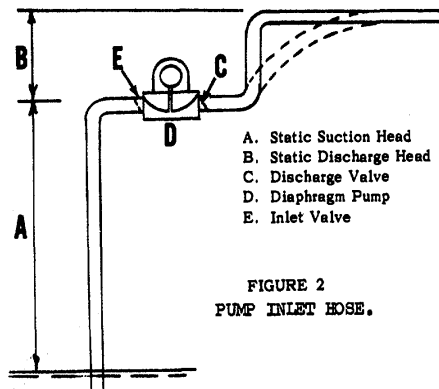

FIGURE 2
7. Selection and preparation of pump site - The pump inlet should not be located higher than 25 feet above the source of liquid to be pumped. (Fig. 2) The pump is capable of pumping against a total dynamic head of 35' which is a combination of (A) and (B) in Fig. 2, but the Static Suction Head is not to exceed 25' (measured vertically) above the inlet valve from water level. This would leave a 10' Static Discharge Head (measured vertically). These figures are based on using a suction line of same nominal inside diameter as pump inlet (4"), and one elbow and are calculated at sea level atmospheric conditions. For maximum pumping efficiency it is recommended that the discharge line be elevated above the height of the discharge valve. This retains a back pressure against the discharge valve on the suction stroke of the diaphragm. Pump should be setting level and as close to the liquid to be pumped as possible. Adequate working space should be provided around the pump for inspection and servicing.
Both the suction and check valves should close with a distinct slap. A change to a very loud snap indicates excessively high suction and/or discharge. Make sure that the installation does not exceed the maximums. (Reference, Chapter II, Par. 7 and Fig. 2.)